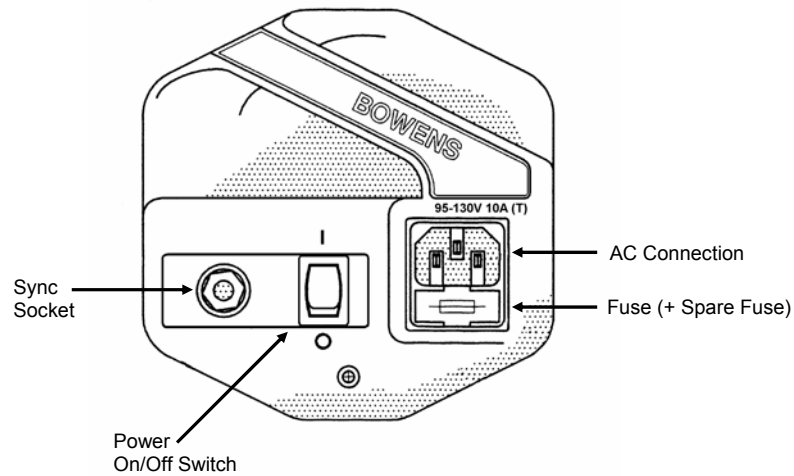

Figure 1
- A 10A (T) 20mm fuse mounted on the rear panel (Fig.1) protects the charging and modelling circuitry of the unit. Disconnect from the supply before changing the fuse. Never replace with a fuse of a different type or rating. A spare 10A (T) fuse is fitted in the fuse holder.